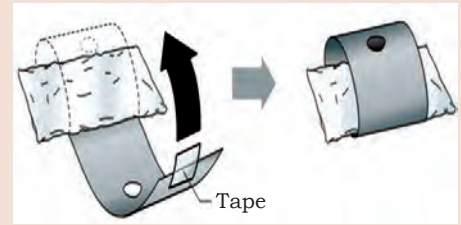

Fig. 1.33
5. Make sure the hole is large enough for a bulb to fit into it. Then loop part A around the backside of part B. Tape it into place using electrical insulation tape as shown in Fig. 1.33.